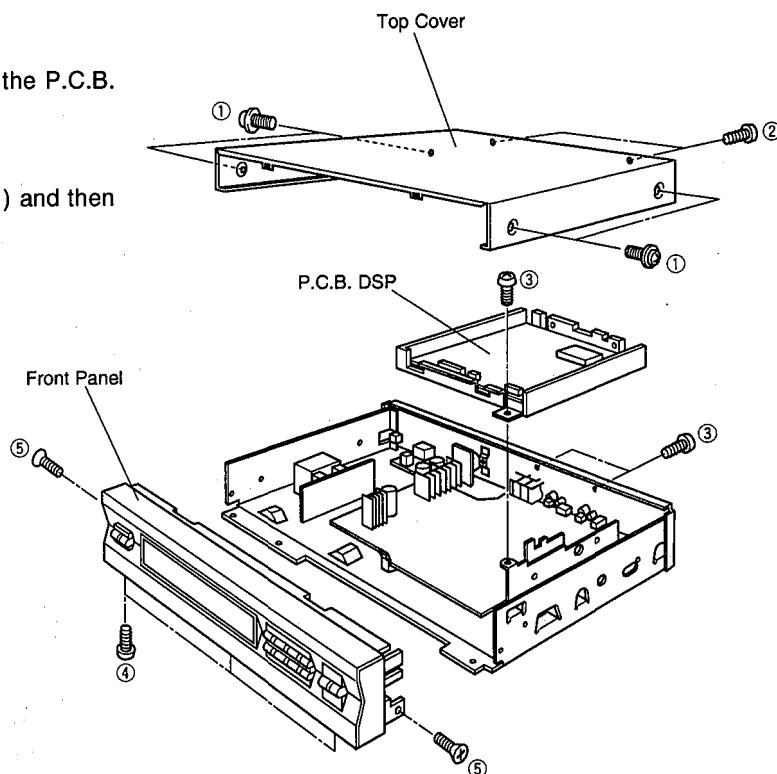

Fig. 1
- a. Remove 4 screws (①) and 2 screws (②) and then remove the Top Cover in Fig. 1.
- a. Remove 3 screws (③) and then remove the P.C.B. DSP in Fig. 1.
- a. Remove 3 screws (④) and 2 screws (⑤) and then remove the Front Panel in Fig. 1.